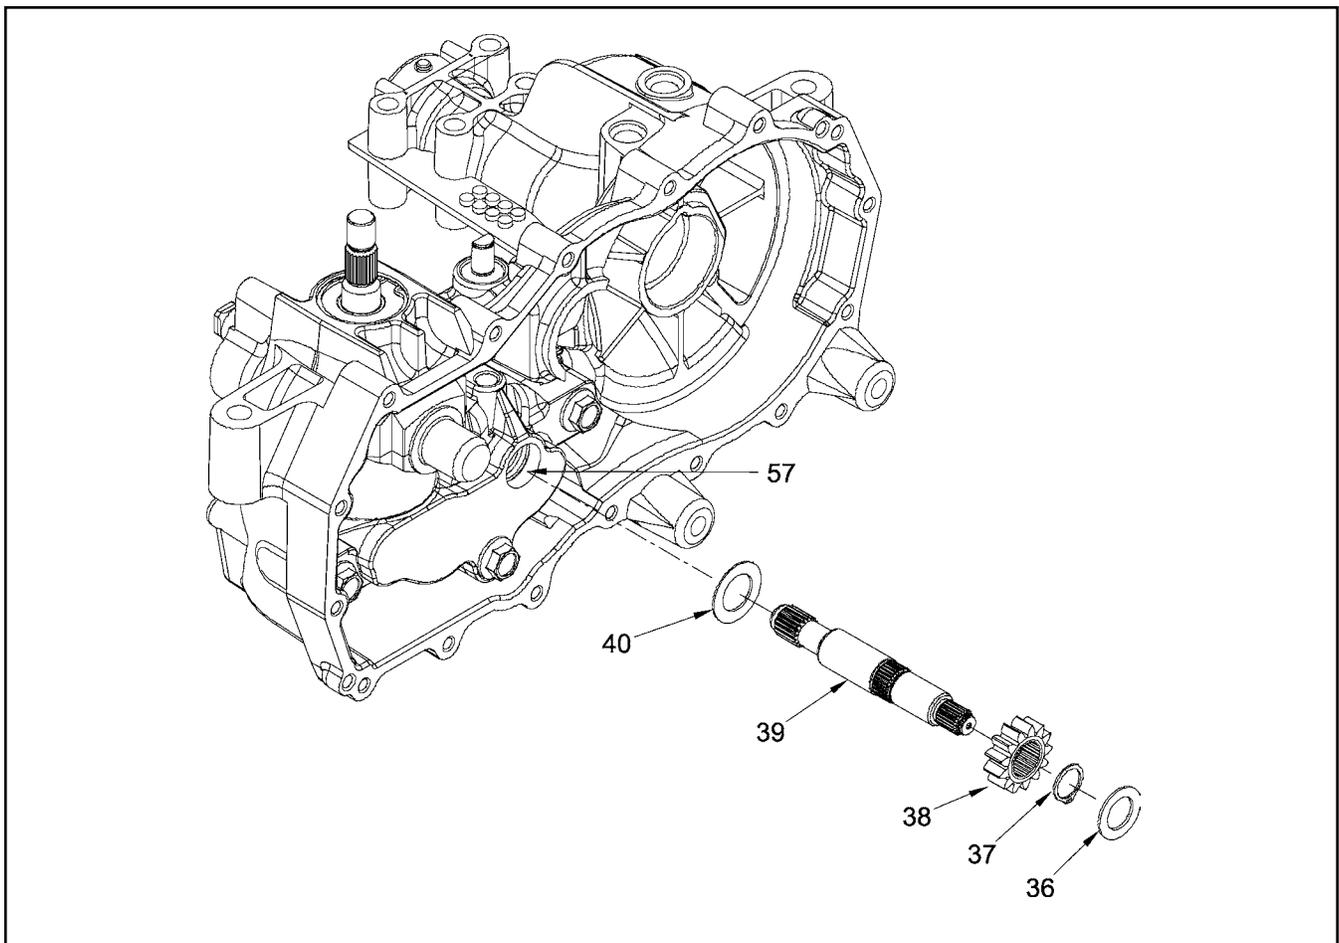
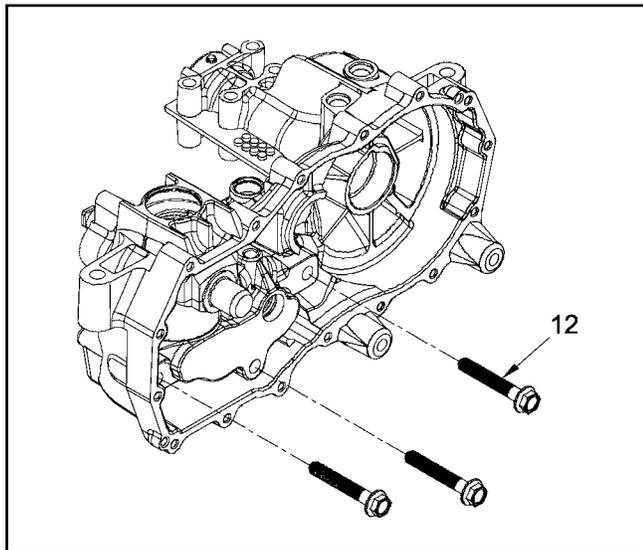
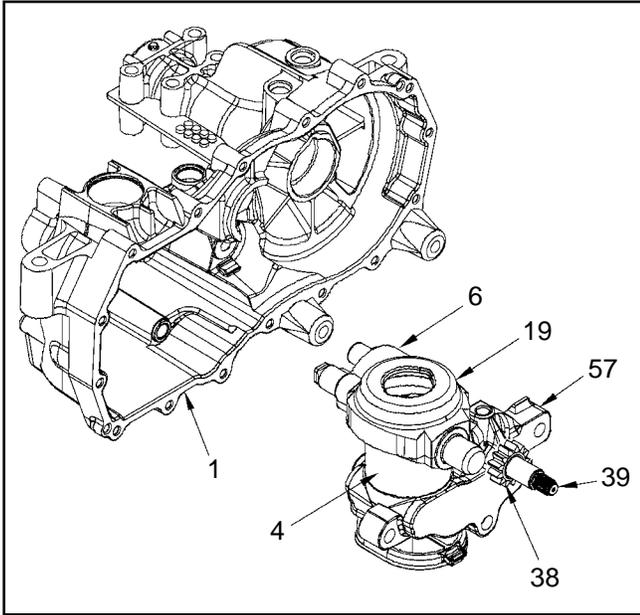

Figure 12. Motor Shaft
Figure 18.
Figure 22.
Refer to Figure 12.
12. **(See Figure 18)** Remove the center section mounting screws (12). NOTE: The center section is under motor block piston spring pressure. These screws are factory installed to 700 lb-in (80 Nm) and use an anaerobic thread adhesive. A breaker bar will be required at this step. Clean the internal threads of the mounting holes with compressed air.
6. **(See Figures 12 & 22)** Install the motor shaft (39), pinion gear (38) and flat washers (36 & 40) into the center section (57).
7. Assemble the motor block assembly (6) onto the motor shaft (39).
8. **(See Figure 22)** Install the motor shaft, center section and motor block assembly into the housing so that the motor block pistons contact the thrust bearing race. NOTE: Hold in place and insure all pistons are still positioned correctly in the cylinder bore by confirming spring bias against the center section.
9. **(See Figure 18)** After applying thread adhesive, insert the center section mounting screws (12) while holding downward pressure on the center section assembly (57, Figure 22).
10. Tighten the center section mounting screws (12) to the proper torque. Refer to Table 6. NOTE: The center section must be fully seated into the pilot bore before the screws are tightened. The center section will not self locate.